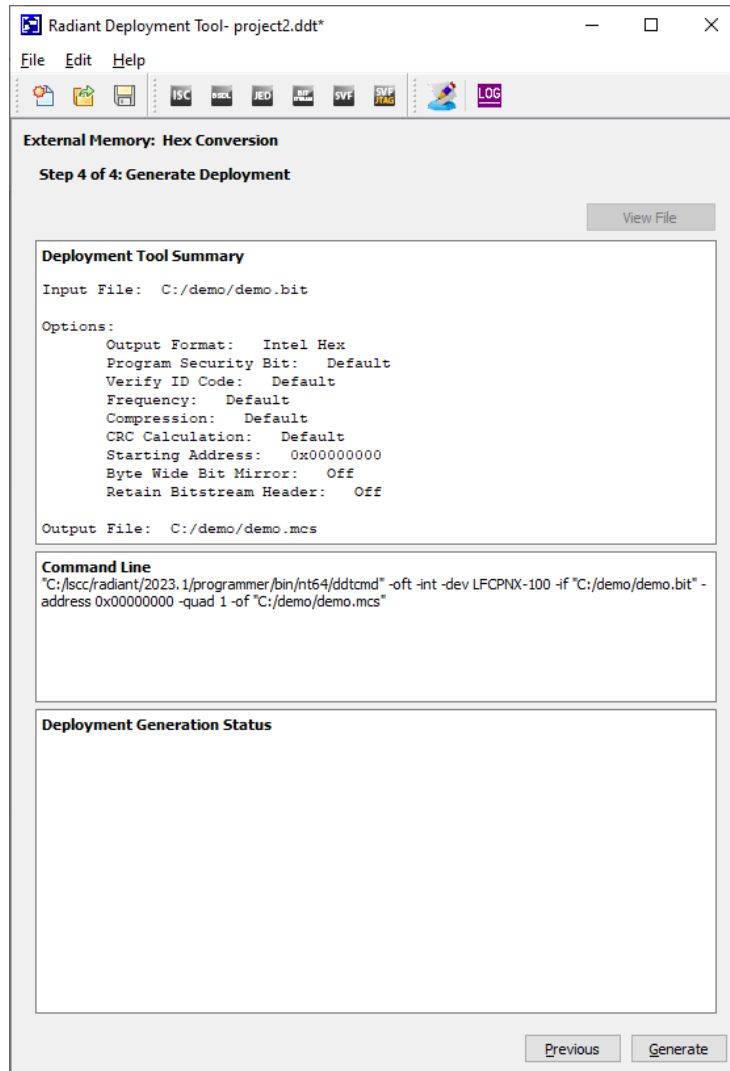

Figure 6.12. Deployment Tool Summary and Programming File Generation
10. Verify the summary. To generate the programming file, click **Generate**. See Figure 6.12.